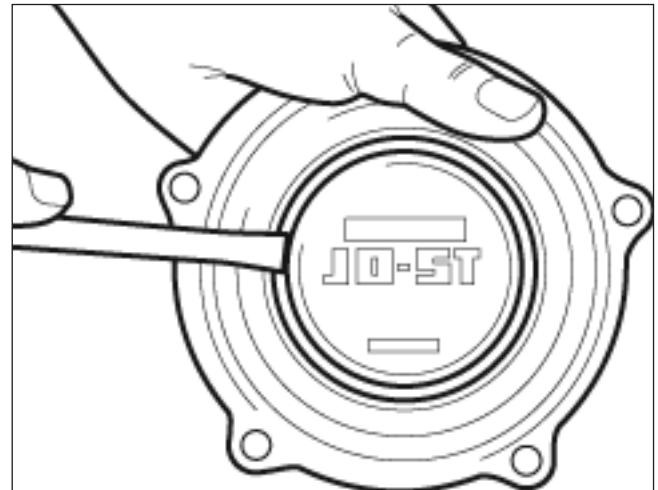

Fig. 8.3
**T** Lower the hubodometer through the hole to engage the thread. Rotate the hubodometer to screw the nut along the mounting stud until hand tight. Finally tighten the nut with the spanner in the normal way (Fig. 8.3) to a maximum of 27 Nm.